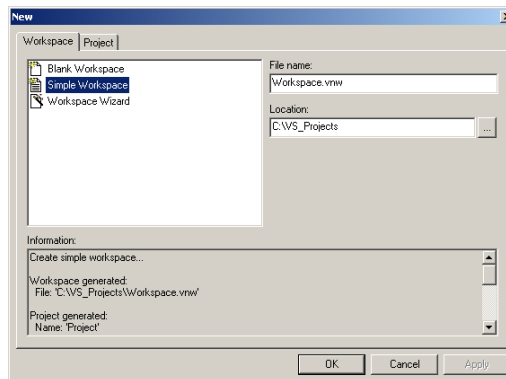

Figure 5: Navigator New dialog box
- 2 Click **Create a New Workspace** and click **OK**. A dialog box is displayed. See *Figure 5*, page 12.